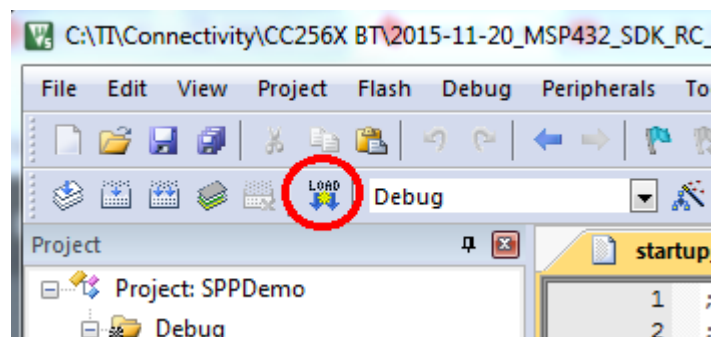

Figure 17. LOAD Button
- (a) Press the LOAD button to start loading the profile on the MSP432 device (see Figure 17).